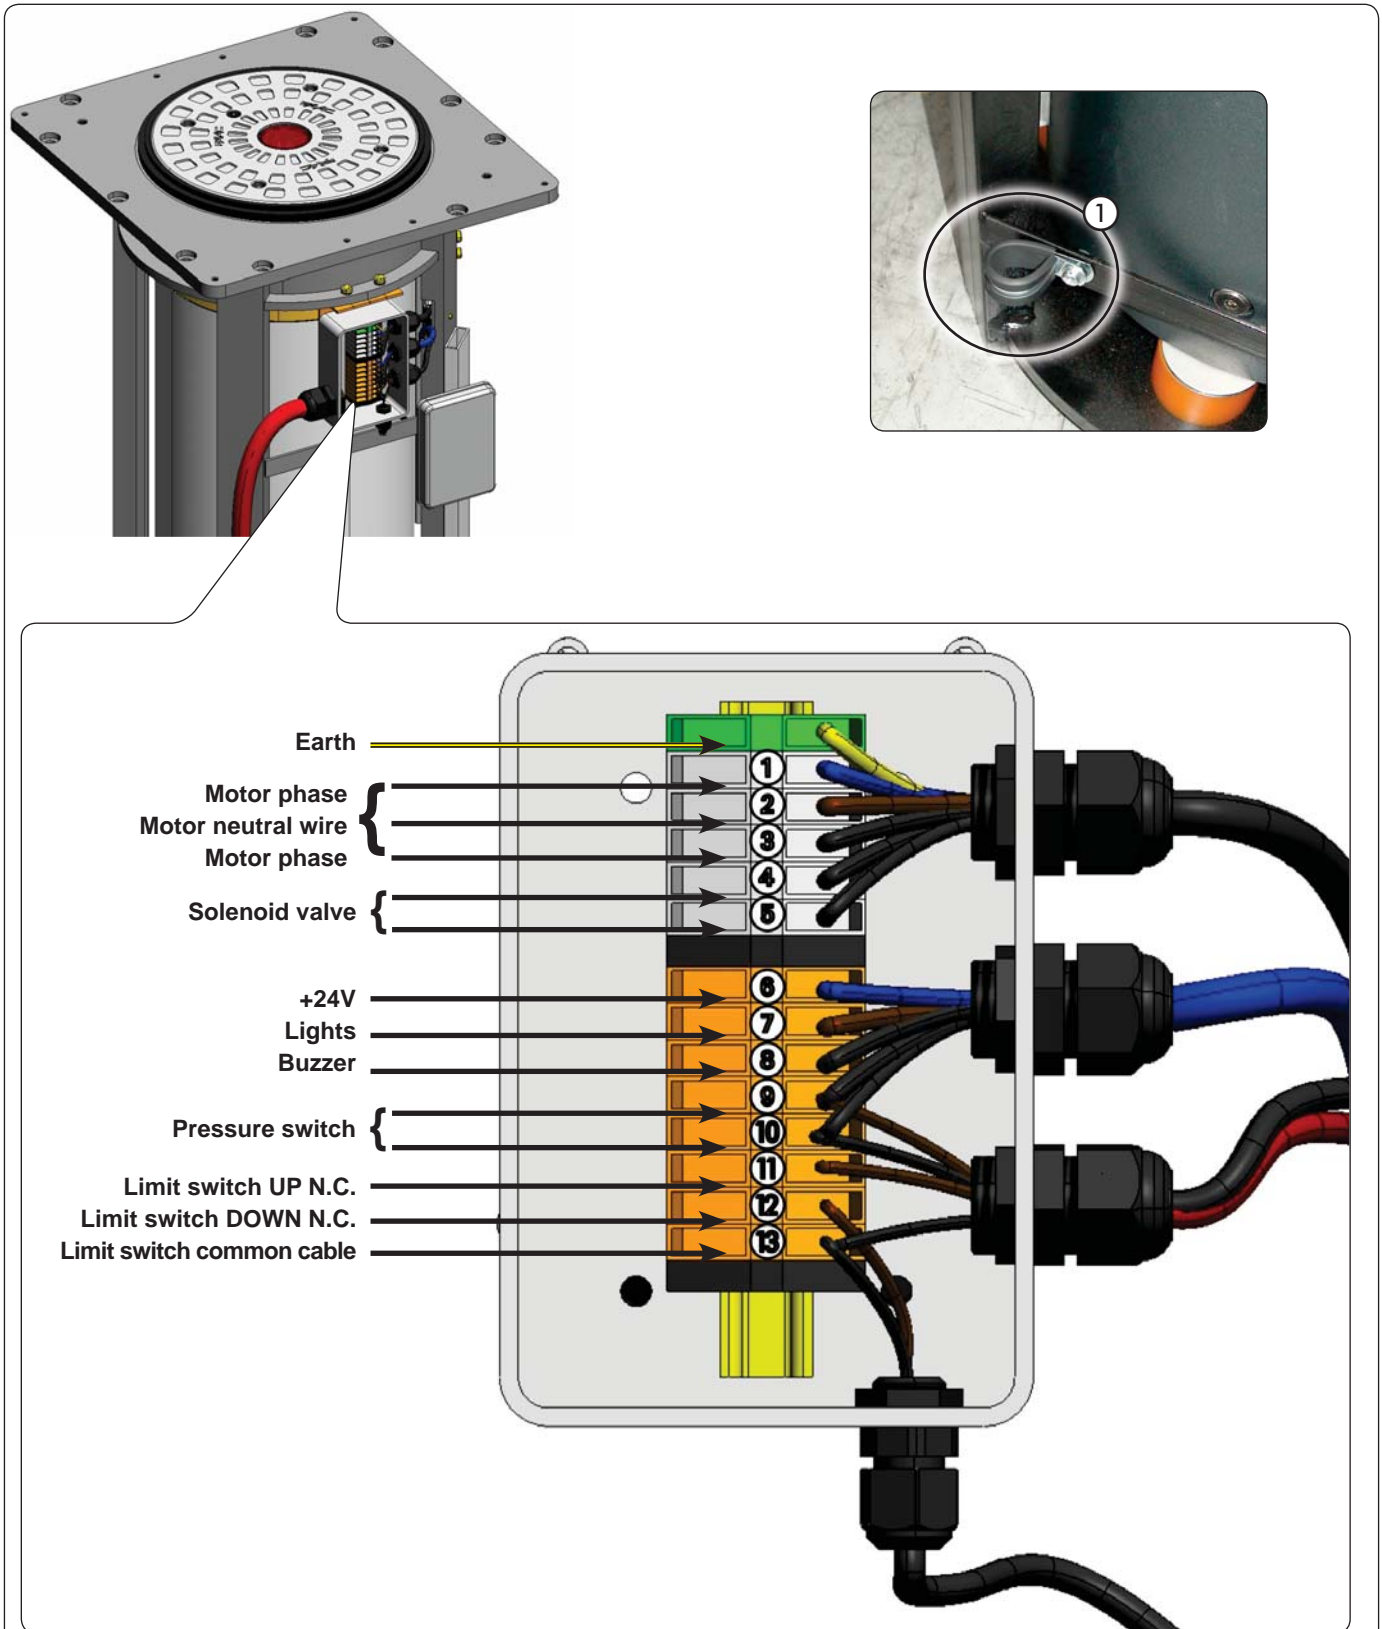

Fig. 7
For the connection of the bollard to the control unit, use a multi-pole cable, type **FG7OR-0.6/ kV- 6G 1.5 (16 cables of 1.5mm²) with max. length of 50 m**. This cable must be laid inside a sheath \varnothing 45mm, secured to the cable clamp in the bottom part of the frame (fig. 7 ref. ①) and must come out of the pit by 1,2 m for the version H600 and by 1,6 m for the version H800. Perform the electric wiring in the junction box on the bollard side, as shown in the figure below.